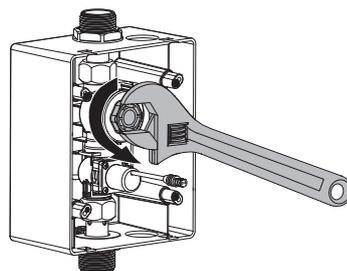

Figure 2
3. Remove the valve cover with an adjustable spanner (Fig. 2)